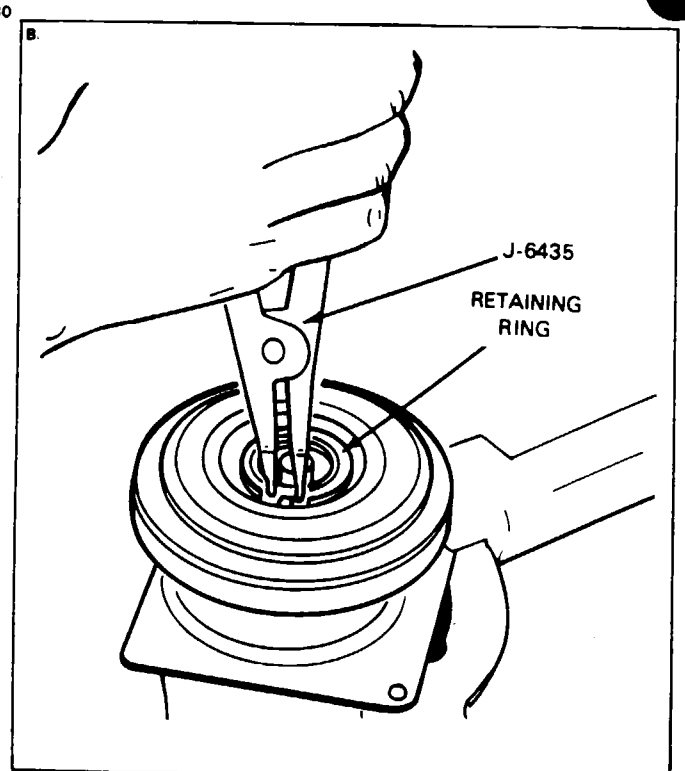

Figure 21-31. Removing Pulley Retaining Ring
3. Remove the pulley retaining ring from inside driven plate using tool J-6435. (Refer to Figure 21-31.)